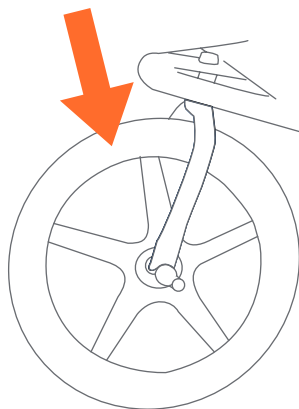

Fig. 22
- 22)** • Lift the front wheel off of the ground and sharply strike the top of the tire (Fig. 22). The wheel should not be loose or come off.